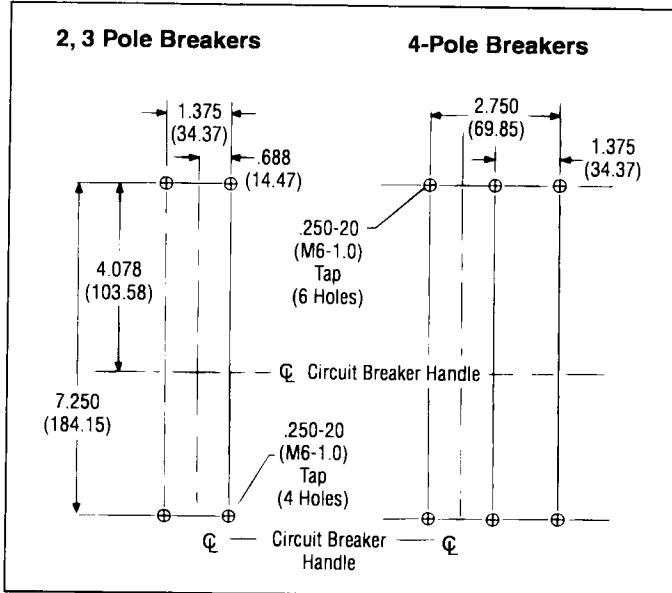
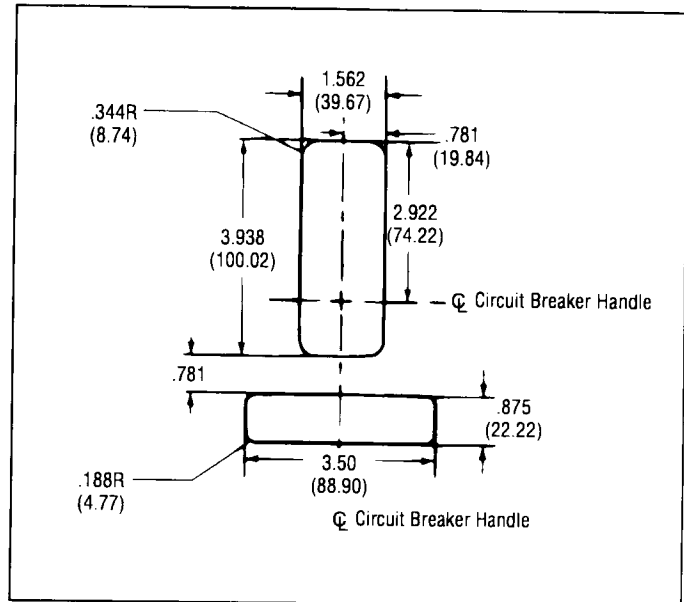

Figure 2-4 Circuit Breaker Mounting Bolt Drilling Plans
Figure 2-5 Circuit Breaker Escutcheon Dimensions
- a. For individual surface mounting, drill mounting panel using the drilling plan shown in Figure 2-4. For panel-board mounting, only load end support mounting holes are required. For deadfront cover applications, cut out cover to correct escutcheon dimensions. (See Figure 2-5)